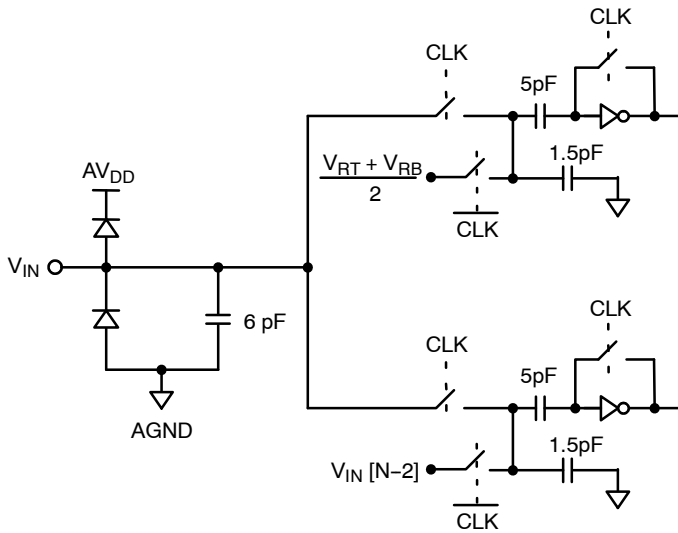

Figure 4. Equivalent Input Circuit
- 5 See  $V_{IN}$  input equivalent circuit (Figure 4.). Switched capacitor analog input requires driver with low output resistance.